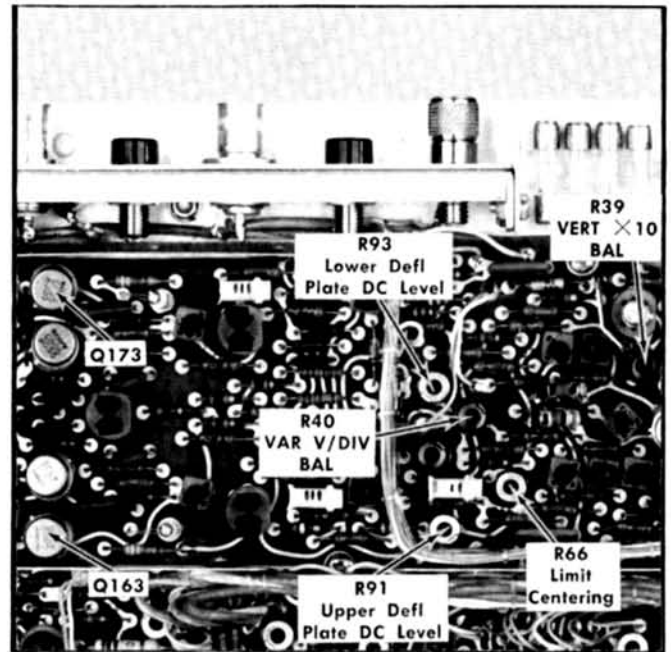

Fig. 6-5. Location of vertical adjustments (Main board).
c. ADJUST—VAR V/DIV BAL adjustment, R40 (see Fig. 6-5), for no trace shift as the VARIABLE VOLTS/DIV control is rotated. If necessary, use the vertical POSITION control to keep the trace on screen during this adjustment.
- ADJUST—VERT ×10 BAL adjustment, R39 (see Fig. 6-5), to return the trace to the center horizontal line. Repeat parts b through e for minimum trace shift as the ×10 VERT GAIN switch is pulled out.
- Connect the precision DC voltmeter from the collector of Q163 (case of Q163; see Fig. 6-5) to chassis ground.
e. ADJUST—Upper Defl Plate DC Level adjustment, R91 (see Fig. 6-5), to center the measured voltage range around +50 volts.
f. Connect the precision DC voltmeter from the collector of Q173 (case of Q173; see Fig. 6-5) to chassis ground.
i. ADJUST—Lower Defl Plate DC Level adjustment, R93 (see Fig. 6-5) to center the measured voltage range around +50 volts.
k. Connect the precision DC voltmeter from the collector of Q163 (case of Q163; see Fig. 6-5) to chassis ground.
l. Preadjust the Limit Centering adjustment, R66 (see Fig. 6-5), for a meter reading of +50 volts (perform this adjustment only if proceeding to next step).